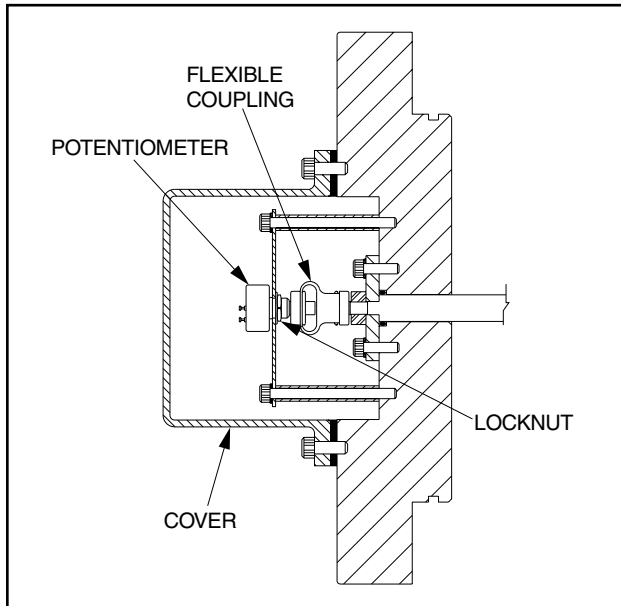

Figure 28 - Potentiometer Adjustment
7. Adjustment (see Figure 28):